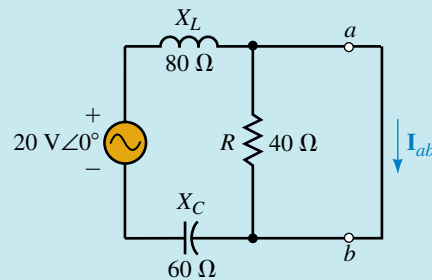

FIGURE 20–29
Step 4: Reinserting the voltage source, as in Figure 20–29, we find the Norton current by calculating the current between the shorted terminals, a and b .